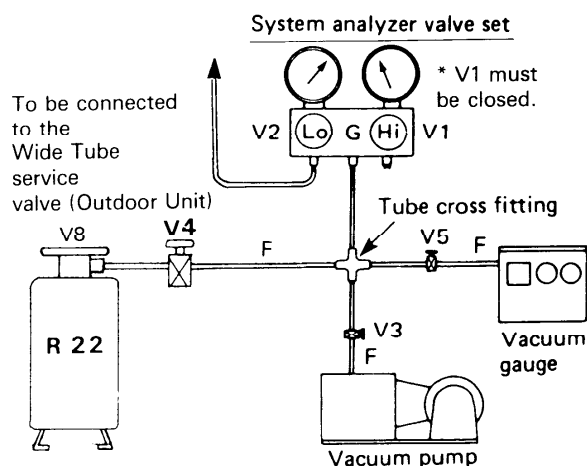

Fig. 27
- 1) Prepare the system analyzer valve set and connect charging hoses as in Fig. 27. Be sure to close all valves before connection. (Refer to page 24, Fig. 36-c)